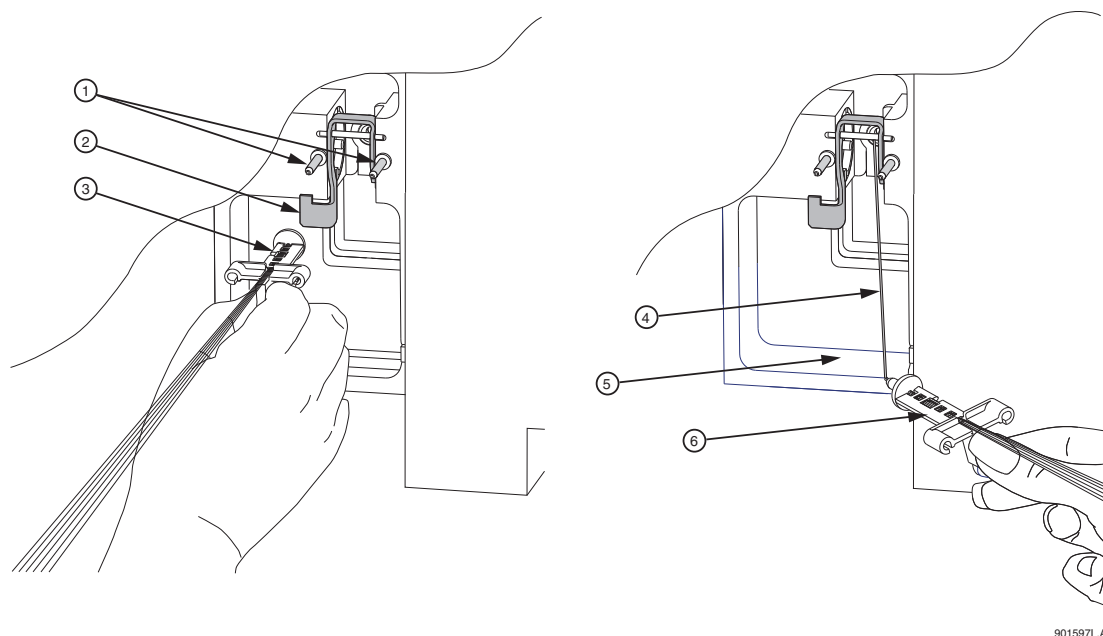

Figure 9.48 Removing the Manifold Plug
8. Grasp the Manifold Plug tab (Figure 9.48) and then: